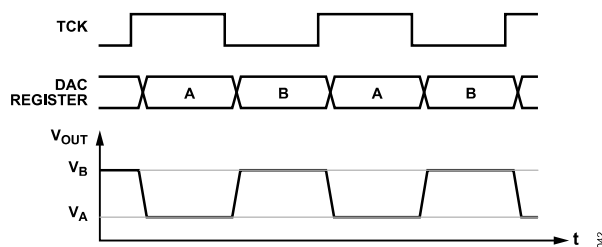

Figure 54. TCK Timing
When the TCK signal is high the DAC outputs a voltage (V_A) corresponding to Input Register A, and when TCK is low, the DAC outputs a voltage (V_B) corresponding to Input Register B (see Figure 54). The toggle function can be disabled by writing 0x0000 to the toggle/dither enable register (Command 11).
7. Apply the toggle clock signal to the TGP2 pin. The DAC output voltage changes on the rising and falling edges of the toggle clock signal as shown in Figure 54.